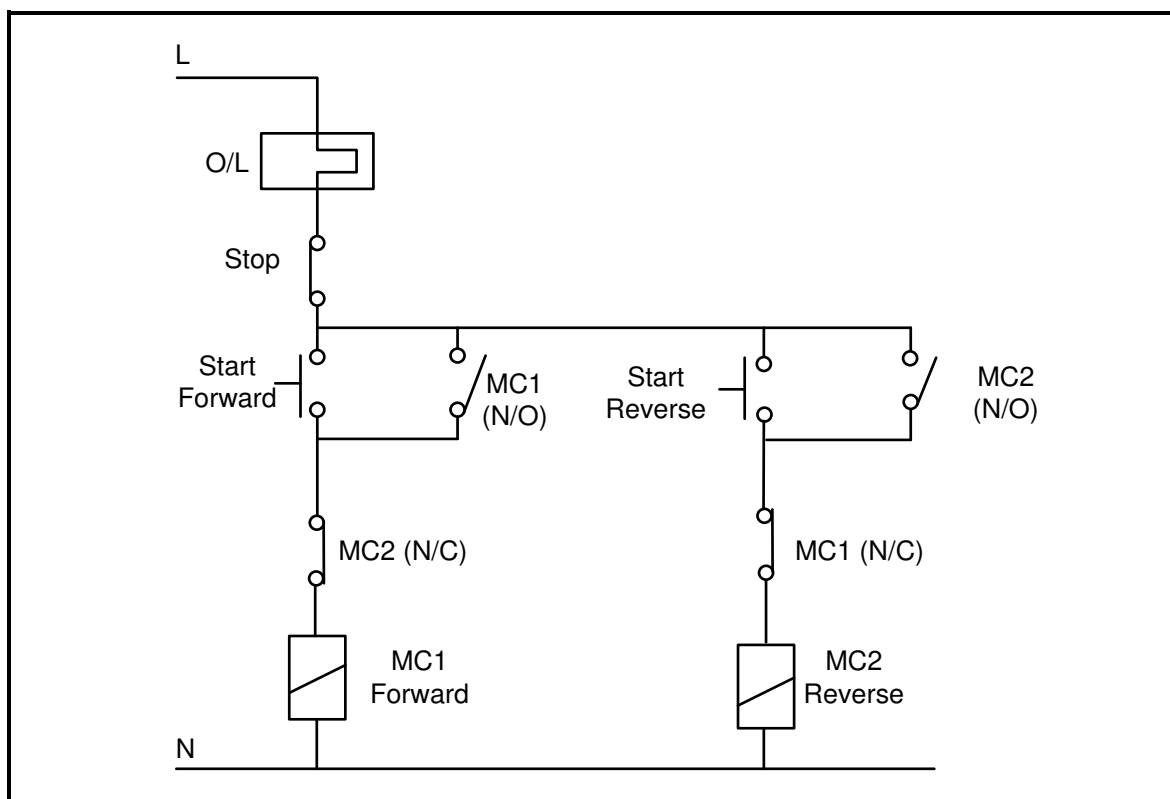

FIGURE 6.8: CONTROL CIRCUIT
- 6.8 Refer to FIGURE 6.8 on the next page and draw the PLC ladder logic diagram that would execute the same function.
6.8 Refer to FIGURE 6.8 below and draw the PLC ladder logic diagram that would execute the same function.